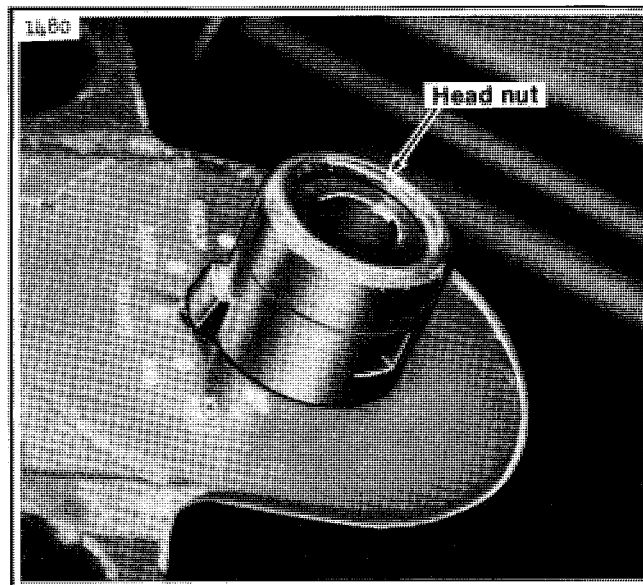

Figure 4. Ignition Switch Housing Head Nut
5. Torque ignition switch housing head nut to 50 in-lbs (See Figure 4). Hold switch pointing straight ahead while tightening to prevent it from rotating in the support housing.